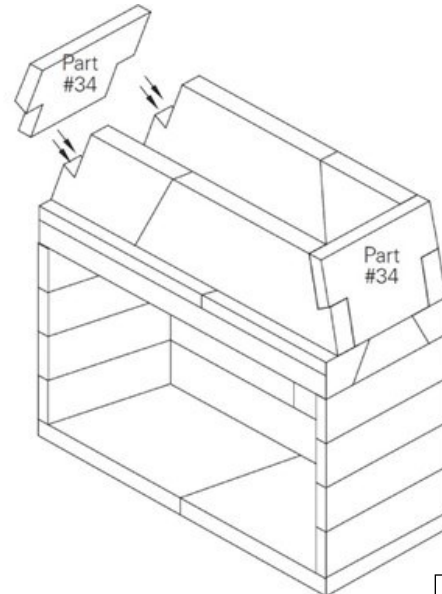

FIGURE 35
8. Position the smoke dome's sloping sidewalls at each end of the smoke dome components. The sloping sidewalls fit in between the front and rear smoke dome components and also fit into the haunches at the ends of the front and rear smoke dome components. Earthcore adhesive all contact surfaces thoroughly. The smoke dome sloping sidewalls have a beveled bottom edge so that they will sit tight onto the flat top of the damper beam assembly. **(Figure 35)**